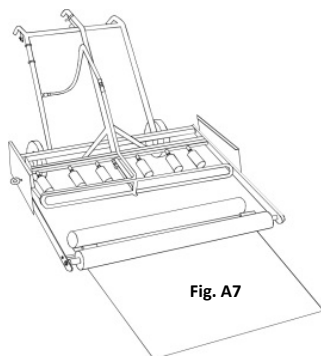

Fig. A7
With the weighted roller bar resting on the material, and the (2) two smaller rollers against the roll, your **PLY-RITE™** Wagon is now ready for operation (**Fig. A7**).